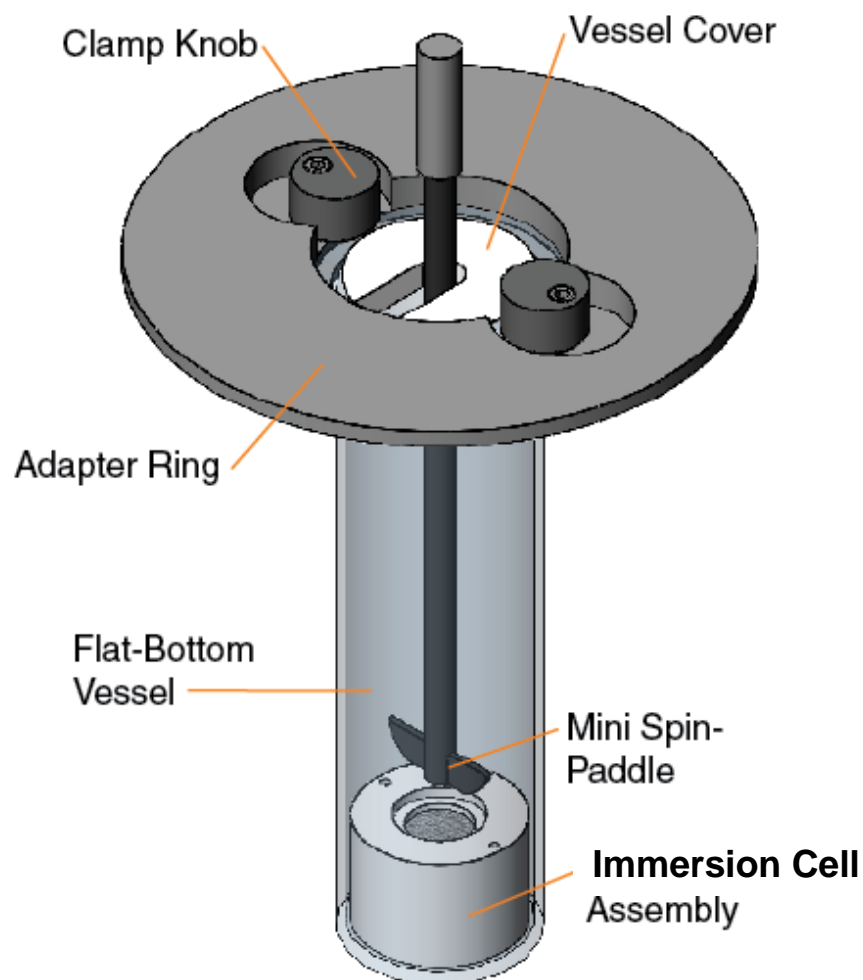

Fig. 7 SR8-Plus Configuration
- a. Adjust the lock collars on each of the two guide rods to 1" above the rod mount (see Fig. 7).